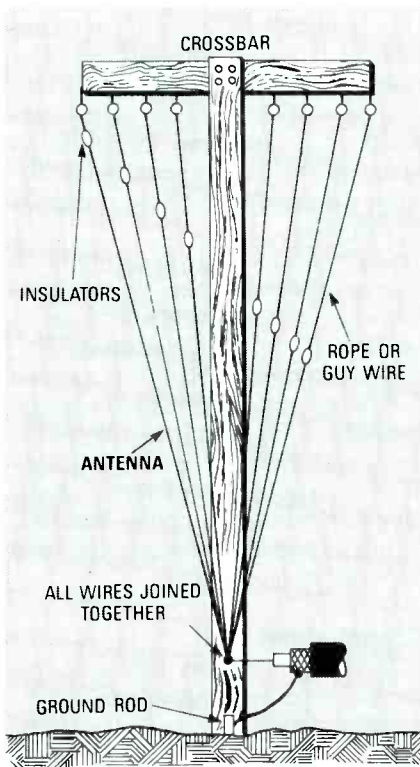
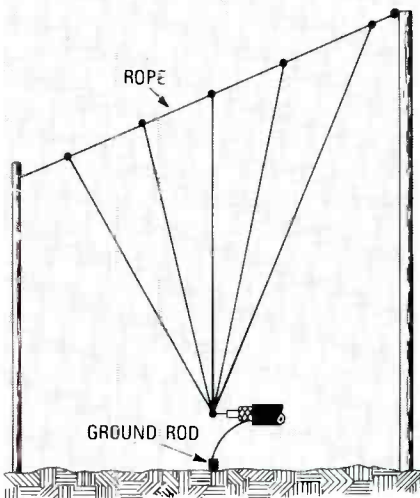

FIG. 11—TUNE IN THE WORLD with eight antennas in one.
FIG. 12—BY USING A SLANTED ROPE, you can tie together any number of antennas tuned to different wavelengths.
FIG. 11—HERE'S A TIP FOR constructing a RFI shield. Before soldering the copper tape to the nut flats, tin the flats with a little solder first. The relay is on the underside of the PC board as viewed from this angle.
Different conductor lengths ($L = 246/f$ MHz) are required for different operating bands. In Fig. 11, several bands are accommodated from the same feedline using the same support. In fact, eight different antenna elements are supported from the same tee-bar. Be sure that you insulate them from each other, as well as from the support; again, PVC piping can be used for the support structure. Figure 12 shows a method for accommodating several bands by tying the upper ends of each antenna wire to a sloping rope.
3. Figure 10 shows what the relay module should look like. If you choose to hard wire the relay module, use a double-sided copper board, and a shielded enclosure such as a LMB box chassis, Model No. M00. Another RFI shield should be constructed out of copper tape, and should enclose jacks J3, J4, and J5. Constructing that RFI shield isn't easy. With a small file, remove the plating from the top flat of the nuts securing the coax jacks in place. Figure 11 shows you how that's done. Apply some solder to the flats, and secure a piece of copper-shield tape at a 90-degree angle across the flats, then heat the tape so that the solder melts and adheres to the tape. Be sure to leave enough tape at the ends to bend down and solder to the copper-tape ground shield created earlier.
If you use a single-sided PC board, Fig 12, it may be necessary to shield the non-copper side with 1/2-inch copper tape to hold down the RFI. Apply two copper-tape strips across the board's length; however, be sure to scrape the copper tape—using an *Exacto* knife—so that the relay pins don't get shorted out. Drill feed-through holes for the relay pins and the DC voltage line. The ground pin on the relay remains grounded to the shield. Install RY1 on the tape side of the board. Be sure that the relay is properly orientated before soldering into place.